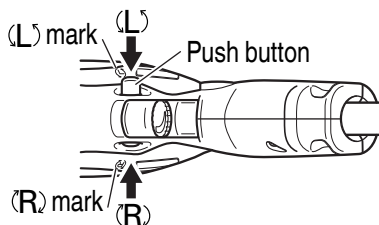

Fig. 2
8. Check the rotational direction (Fig. 2)